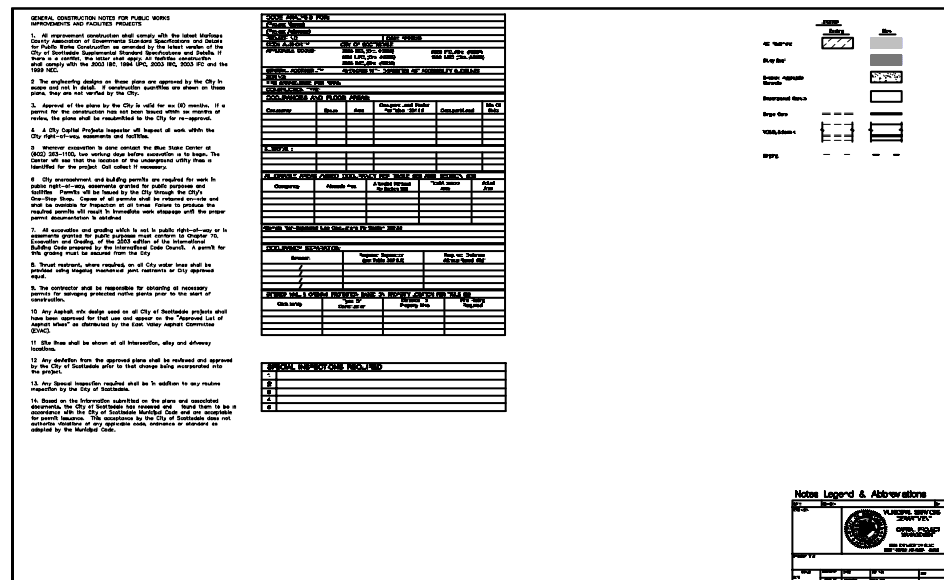

FIGURE 9.1-3. NOTES SHEET
- Include city of Scottsdale general construction notes for Public Works Construction (see Figure 9.1-3 & 9.1-4) in addition to any special project notes generated.